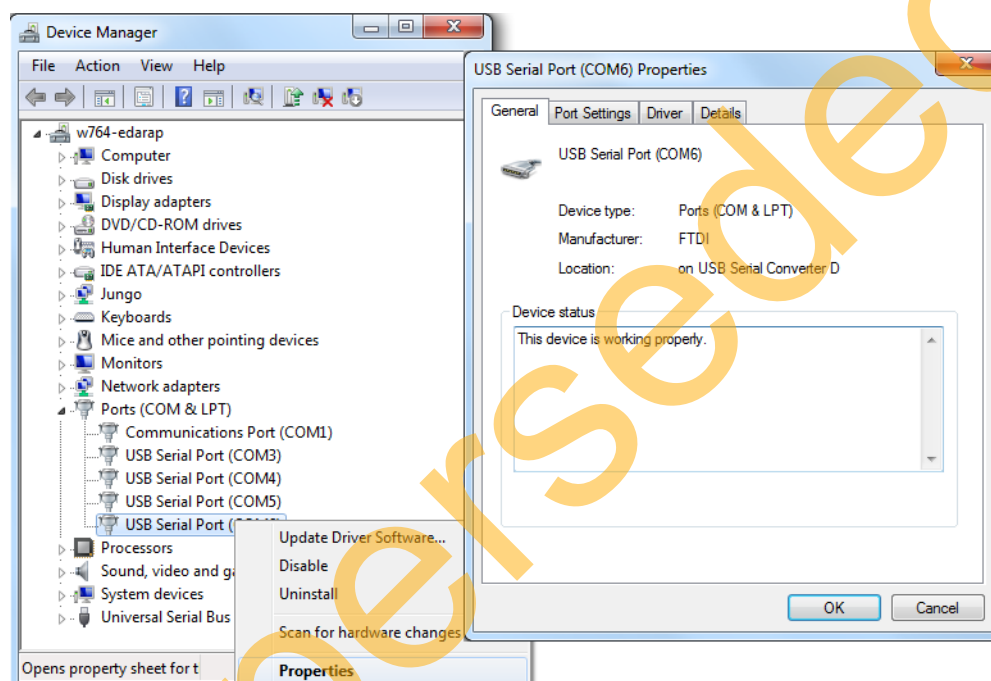

Figure 26 • Device Manager Window
2. Connect one end of the USB mini-B cable to the J24 connector provided on the SmartFusion2 SoC FPGA Evaluation Kit and the other end to the host PC. Ensure that the USB to UART bridge drivers are automatically detected (can be verified in the Device Manager as shown in Figure 26).
Note: Copy the COM port number for serial port configuration. Ensure that the COM port location is specified as **on USB Serial Converter D**, as shown in Figure 26.